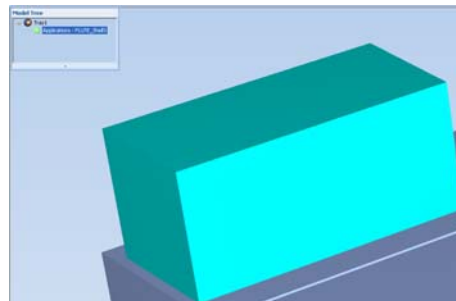

Figure 5-52: Model displayed with bounding box
- With a *Bounding Box* (see figure 5-52 on page 39)